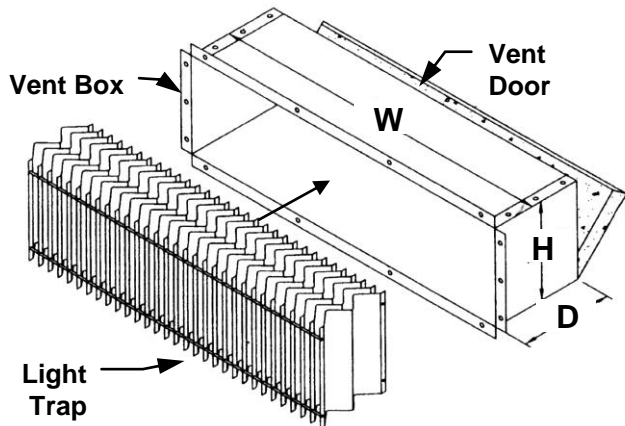

Figure 1 Install Light Trap in Vent Box
2. Unpack the Light Trap extrusion assembly and place into the Vent Box. See Figure 1.